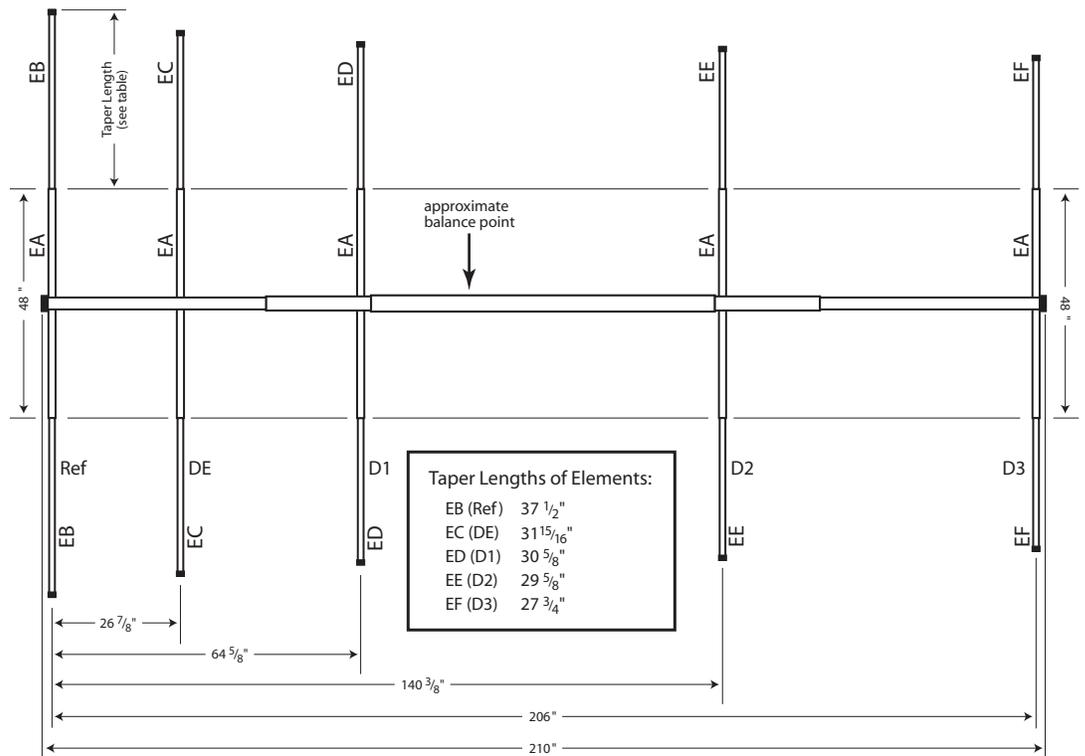

Figure 2: Reassembled Antenna Dimensions
Figure 2 shows the antenna's element positioning and *taper length*. The taper length is the distance the smaller-diameter tubing protrudes from the center **EA** section.
- All the center **EA** sections are 48" long, but the outer nested tubing sections **EB** through **EF** are *not* all the same length. The outer tubing sections are identified in Figure 2. Especially if building this antenna from an unassembled A50-5S kit, it's important to correctly identify each outer element tubing section. The **EB** sections
- In addition, reports from the field suggest that the older version of this antenna, the A50-5, uses **EB** sections that are 37 1/2" long, not 40 1/2" long as in the newer S version. Since the element taper length schedule in Figure 2 specifies a 37.5" extension for the **EB** sections, these shorter elements will not work because there is no nesting overlap. If attempting this modification on an old A50-5 yagi, remove and measure the **EB** tubing sections in the Reflector *before* ordering the aluminum for the boom. If they are not 40 1/2" long, then two six-foot sections of 5/8" tubing from the same tubing schedule (6063-T832) will also need to be ordered—unless you have a well-stocked aluminum bone-pile in your garage!
Referring to Figure 2, attach the length-adjusted elements to the new boom according to the dimensions shown. Use *anti-seize compound* on all U-bolt threads and nuts. See the sidebar Thread Galling in Stainless Steel Fasteners, page 2, for more information.
The mast must be attached to the boom at the antenna's *balance point* to minimize side-load stresses on the mast and rotator. Because of its element placement, the balance point for this antenna is not at the center of the boom. Determine the balance point experimentally by suspending the antenna clear of the ground at various locations along the boom. When the balance point is found, mark it clearly on the boom. It should be approximately at the location shown in Figure 2.⁽¹⁾
- The length of the Driven Element. Refer to the taper length table in Figure 2.
The gamma match dimensions found to be ideal for a design frequency of 50.125 MHz are given here. The length of the Driven Element was shortened somewhat from the original design length provided by the computer model. The experimentally optimized Driven Element outer section taper length is reflected in Figure 2.